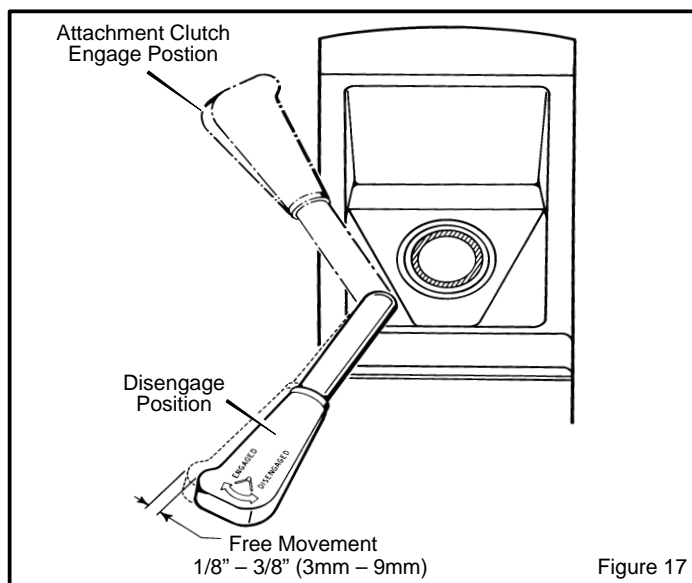

Figure 17
4. Move the **attachment clutch** to the **DISENGAGE** position (Figure 17).